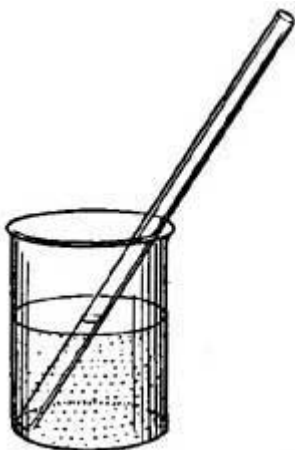

FIG. 41.—The water in the tube is at the same level as that in the glass.
77. Air Pressure. If an empty tube (Fig. 41) is placed upright in water, the water will not rise in the tube, but if the tube is put in water and the air is then drawn out of the tube by the mouth, the water will rise in the tube (Fig. 42). This is what happens when we take lemonade through a straw. When the air is withdrawn from the straw by the mouth, the pressure within the straw is reduced, and the liquid is forced up the straw by the air pressure on the surface of the liquid in the glass. Even the ancient Greeks and Romans knew that water would rise in a tube when the pressure within the tube was reduced, and hence they tried to obtain water from wells in this fashion, but the water could never be raised higher than 34 feet. Let us see why water could rise 34 feet and no more. If an empty pipe is placed in a cistern of water, the water in the pipe does not rise above the level of the water in the cistern. If, however, the pressure in the tube is removed, the water in the tube will